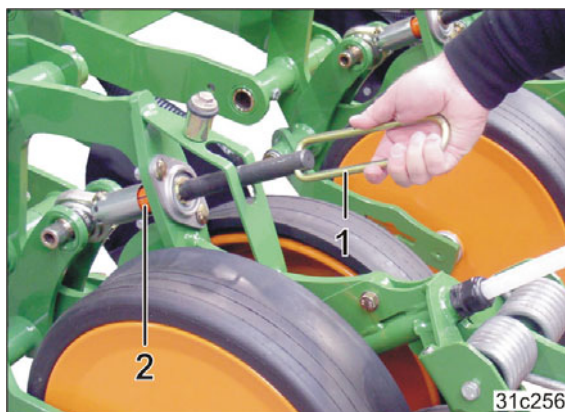

Fig. 166
2. Set the desired placement depth by turning the spindle (Fig. 166/2) with the clamp (Fig. 166/1).